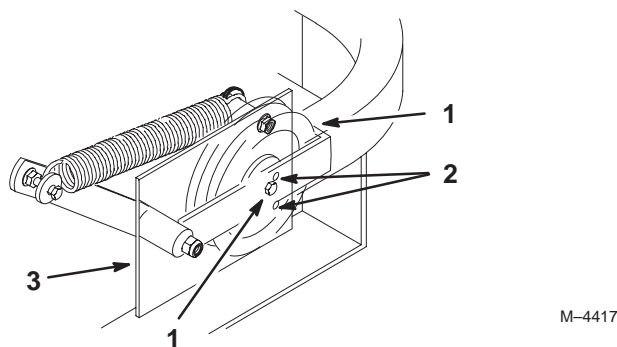

Figure 72
Important Check and make sure the belt is installed into both the front and rear belt guides (Fig. 72).
4. Check the belt tension. The spring loaded idler center bolt needs to be near the top alignment hole in left support plate (Fig. 72).